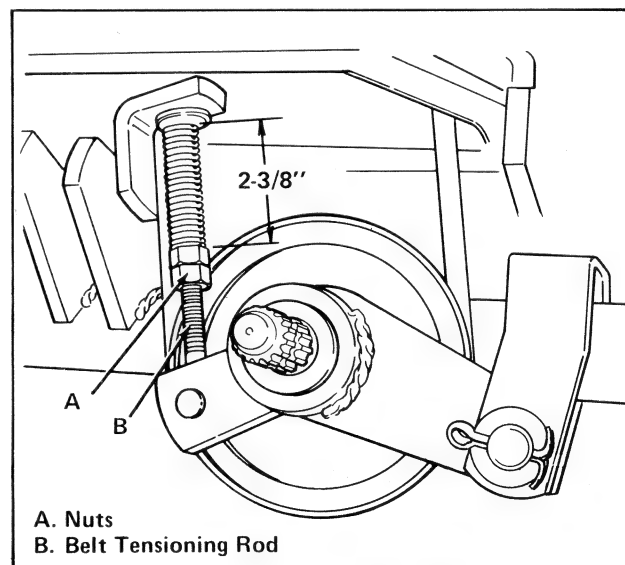

Figure 16. Drive Belt Tension
1. Adjust two nuts (item A, figure 16) on belt tensioning rod (item B) to provide spring length of 2-3/8 inches (60.3 mm).